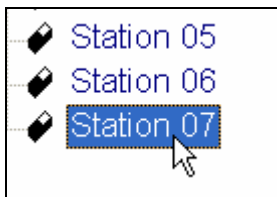

Figure 16.4.41B
- Click on the station that you want to make a slave (Figure 16.4.41B)